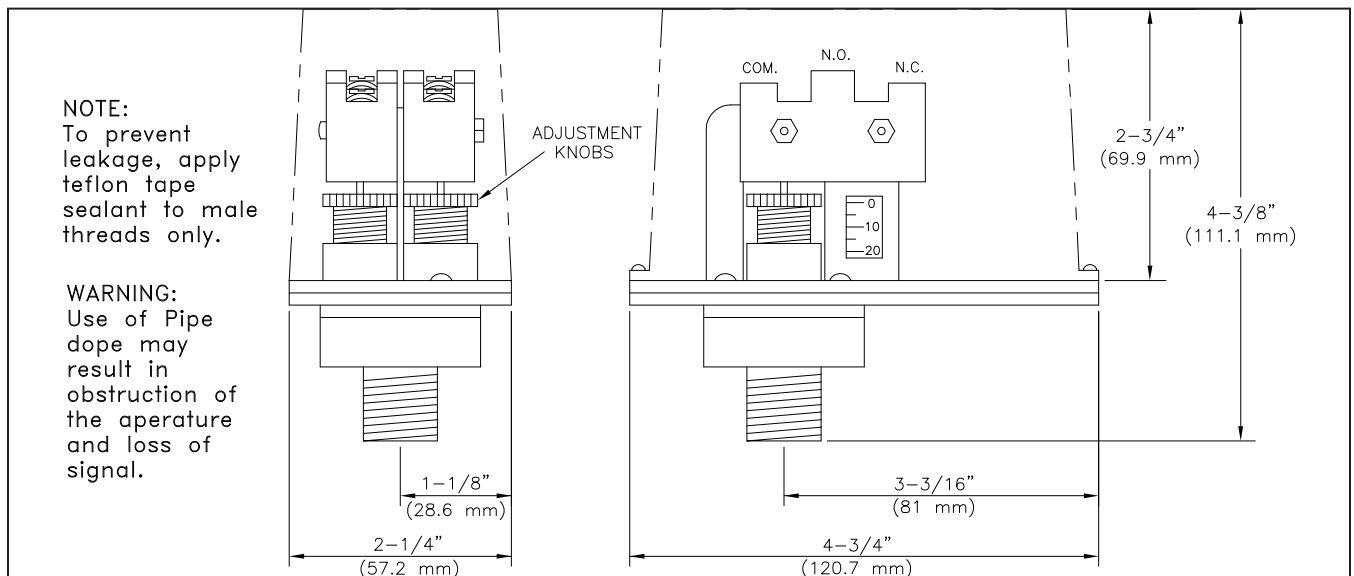

Figure 26
2. When installing the general service alarm pressure switch, apply Teflon® tape sealant to the male threads only (Figure 26). Install the pressure switch in a 1/2" (15 mm) pipe fitting. Use a wrench applied to the wrench flats to tighten the unit. Do not over-tighten.